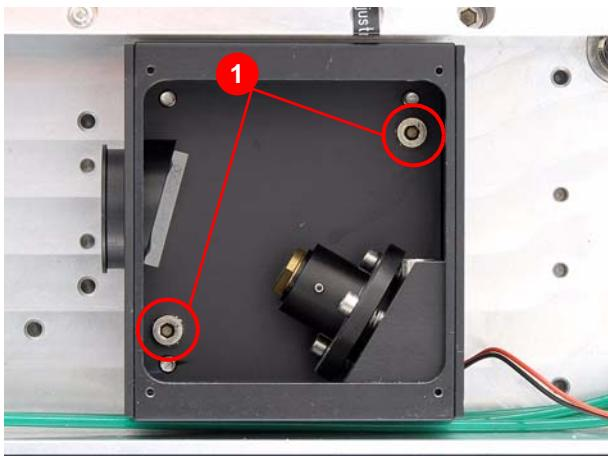

Figure 7.141 Attachment for the alignment laser housing
6. Loosen the fastening screws (1) (Figure 7.141) for the alignment laser housing; remove the housing.